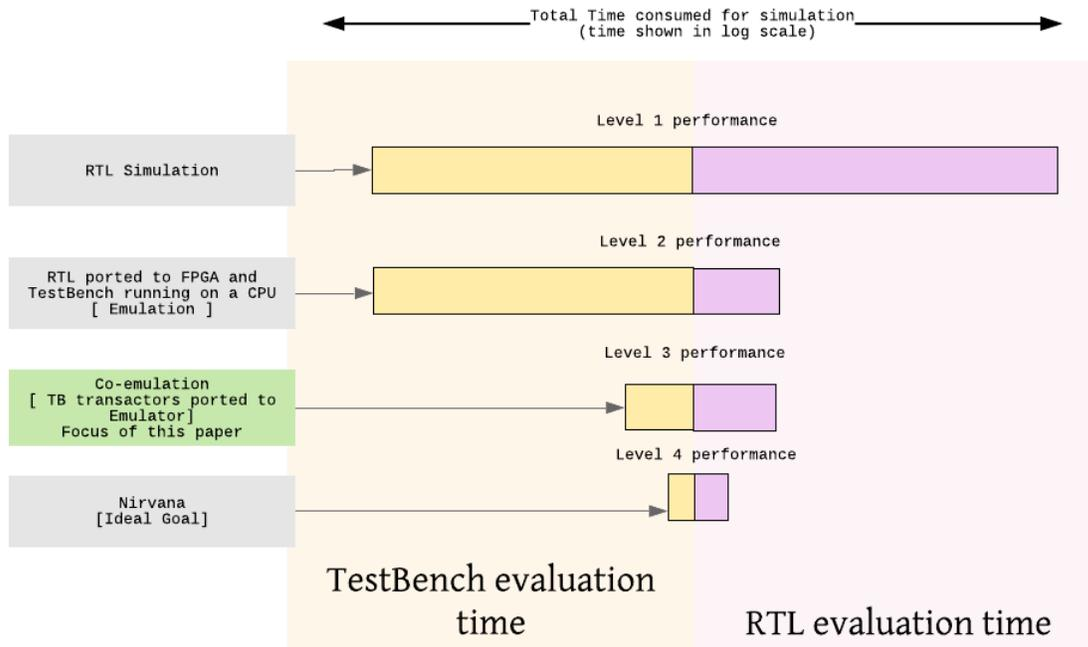

Figure 1: Reaching the TB speedup promise land
With proper planning and effort, Emulators can help speed up runtimes in the order of 5x-1000x or more compared to CPU based RTL simulation (Level 1 performance in Fig1) .
In Figure 1, we show the time consumed by TB and RTL at various performance levels and how it compares to the ideal goal the industry is aiming for. This paper discusses optimizations to get closer to the ideal goal.
- Reproduced 'wedges': 'Wedges' are tests where several things have to happen together and can take some time to reach a triggering state. These kind of scenarios are typically hard to hit or find at level 1 performance (ref Figure 1: Reaching the TB speedup promise land).